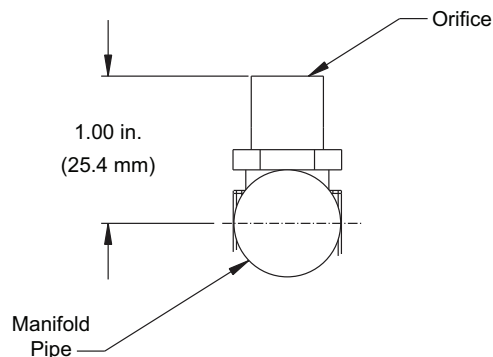

Fig. 51 — Orifice Projection
Refer to Fig. 51 for maximum projection dimension for orifice face to manifold tube.
5. If factory orifice has been removed, check that each orifice is tight at its threads into the manifold pipe and that orifice projection does not exceed maximum value. See Fig. 51.
Ensure each replacement orifice is tight as its threads into the manifold pipe and the orifice projection does not exceed maximum value. See Fig. 51.